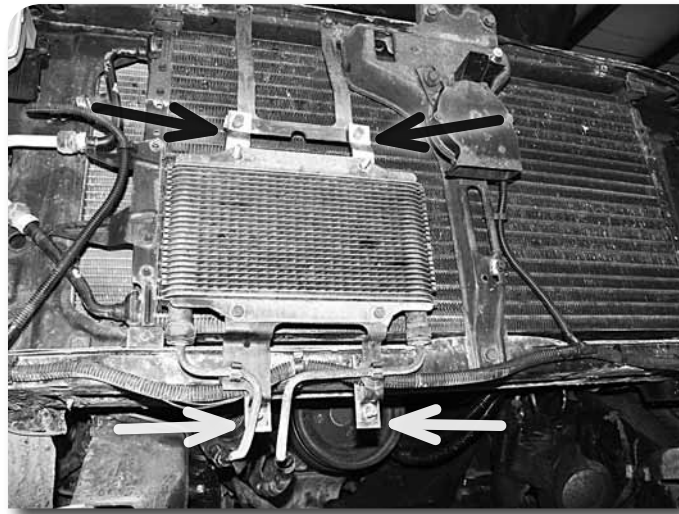

Figure 16
39. Attach the provided 2" straight oil cooler drop brackets to the original top cooler mount using the factory bolts. Leave hardware loose **Figure 16**. The studs in the new bracket should be point forward.
40. Attach the provided 2" offset oil cooler drop brackets to the original bottom cooler mounting holes in the core support using the factory hardware **Figure 16**. Torque hardware to 15 ft-lbs. The studs in the new bracket should be point forward.